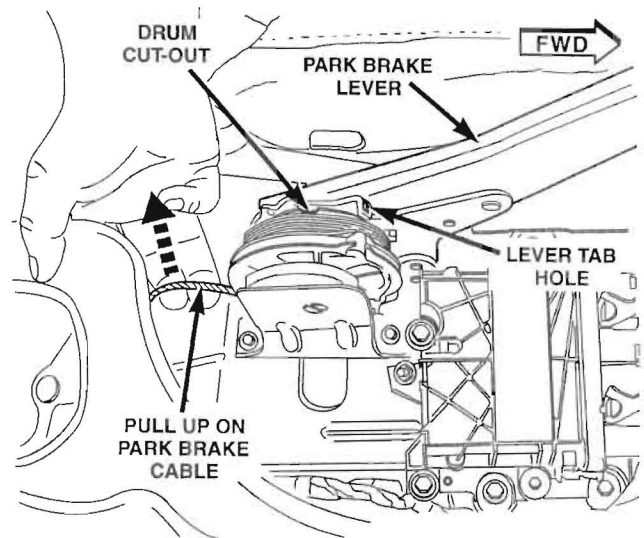

Figure 2
a. With the park brake lever in the “Down” position, pull up on the core cable, rotating the drum, until the drum cut-out aligns with the hole on the lever tab (Figure 2).